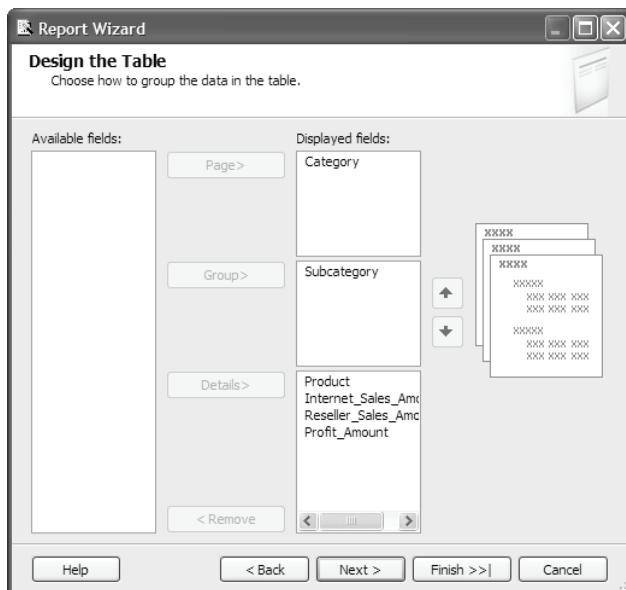

Figure 18.7 Use the Design the Table step to specify how the report data will be grouped.
3. In the Design the Table step (Figure 18.7), we need to specify how the report data will be grouped. Select the Category field and click the Page button to move it to the *Displayed fields* list. As a result, the Report Server will group data on the product category first. In addition, the Report Server will generate a page break after each product group.